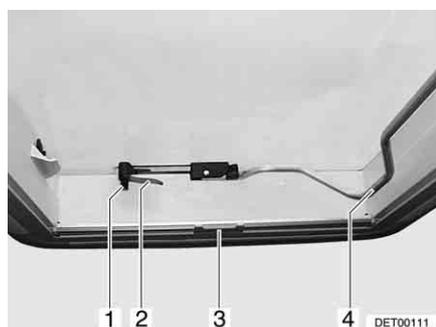
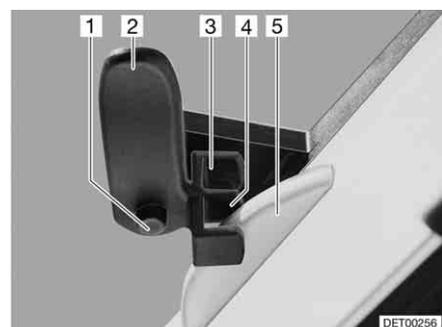

Fig. 61 Heki skylight, closed
Fig. 62 Heki skylight in ventilation position 1
- Press the safety knob (Fig. 61,1) and turn the catch lever (Fig. 61,2) one quarter turn inward.
- Pull the bar (Fig. 61,4) downwards out of the latch.
- Turn the catch lever (Fig. 61,2 and Fig. 62,2) one quarter turn. The hook of the roof lock (Fig. 62,5) must engage in the upper locking fork (Fig. 62,3).
- Press the safety knob (Fig. 62,1) and turn the catch lever (Fig. 62,2) back. The hook of the roof lock (Fig. 62,5) must engage in the lower locking fork (Fig. 62,4).